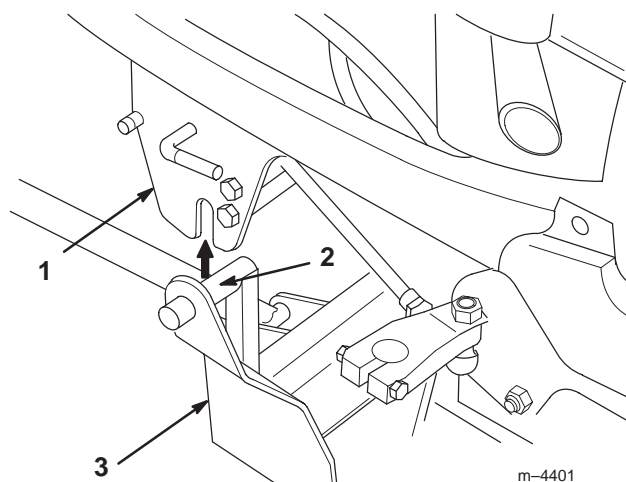

Figure 13
- A. Continue pulling the tractor toward the snowthrower until the snowthrower frame connecting pins are directly below the mid Attach-A-Matic™ hitch (Fig. 13)